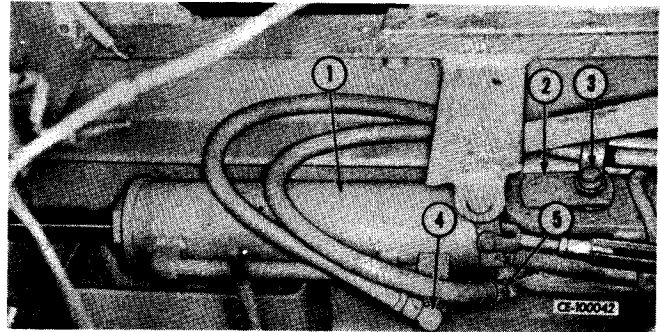

Figure 11-25
Disconnect and tag hydraulic lines (4, 5, Fig. 11-25). Plug all open hydraulic lines.
Lower steering cylinder (1, Fig. 11-25) down into tractor frame. Install cylinder end, with two new cord rings, one on each side of cylinder between mounting bracket and drive pin lock (2) through mounting brackets and cylinder. Install and tighten cap screw, lock washer and hose bracket (3).